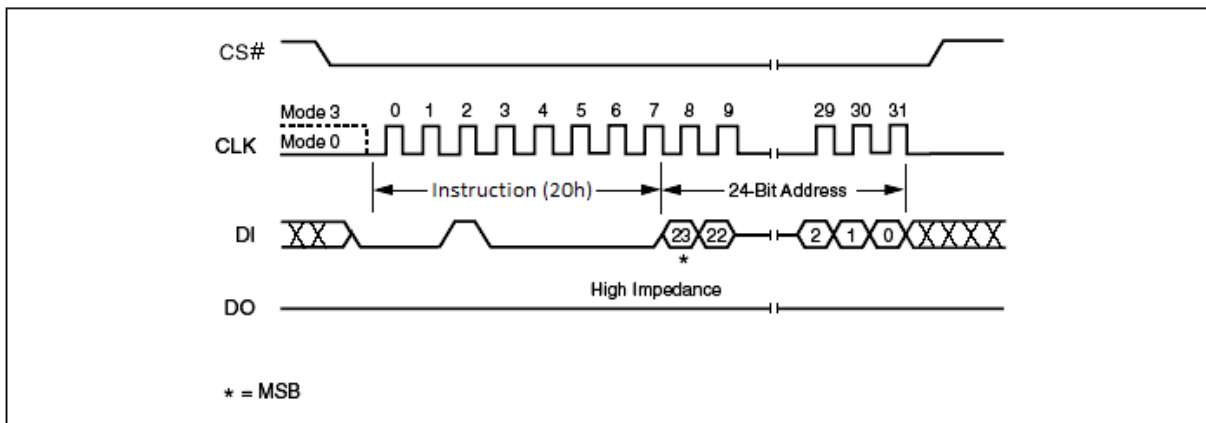

Figure 36. Sector Erase Instruction Sequence Diagram
The instruction sequence is shown in Figure 36. Chip Select (CS#) must be driven High after the eighth bit of the last address byte has been latched in, otherwise the Sector Erase (SE) instruction is not executed. As soon as Chip Select (CS#) is driven High, the self-timed Sector Erase cycle (whose duration is t_{SE}) is initiated. While the Sector Erase cycle is in progress, the Status Register may be read to check the value of the Write In Progress (WIP) bit. The Write In Progress (WIP) bit is 1 during the self-timed Sector Erase cycle, and is 0 when it is completed. At some unspecified time before the cycle is completed, the Write Enable Latch (WEL) bit is reset.